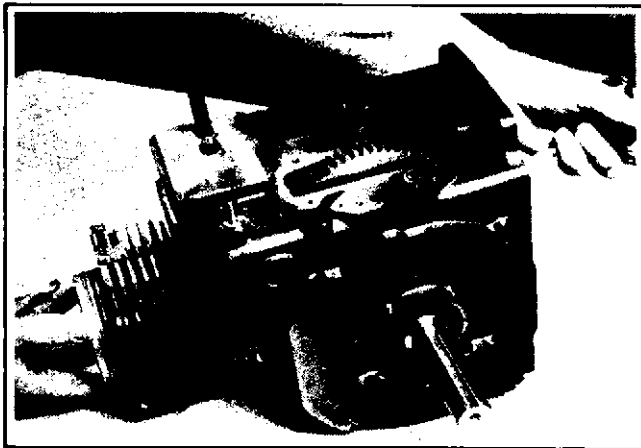

Figure 7-7. Connecting Rod and Piston Removal
2. Remove the connecting rod screws and cap. Lay the engine on its side. With the butt end of a wooden or plastic handled hammer push on the connecting rod until the piston and rod are clear of the cylinder barrel (see Figure 7-7).